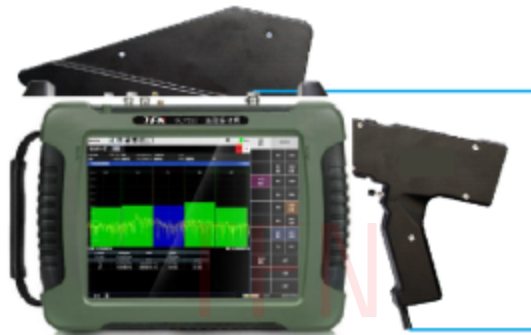

Figure 9.1 Schematic diagram of hand-held DF antenna and RMT series spectrometer
- Step 1. Connect the handheld DF antenna to the RMT series spectrum instrument RF input port and the USB port, as shown in Figure 9.1: